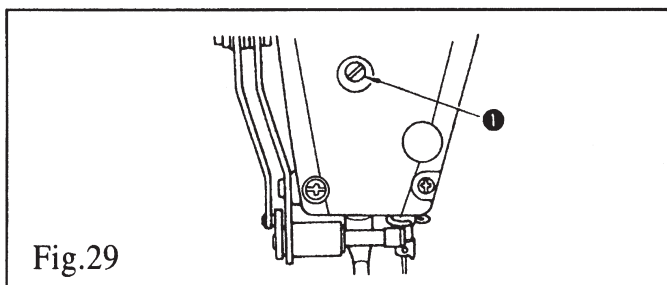

Fig.29
24.ADJUSTING THE HEIGHT OF THE PRESSER BAR(FIG.29)